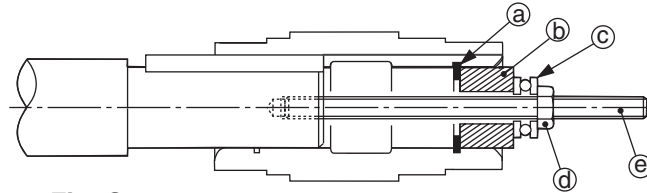

Fig. C-2
(1) Mounting on driven shaft
- When engagement is too tight, lightly strike on the end of the hollow output shaft with a mallet. Never strike on the casing. We recommend making a jig (Fig. C-2) for smooth insertion.